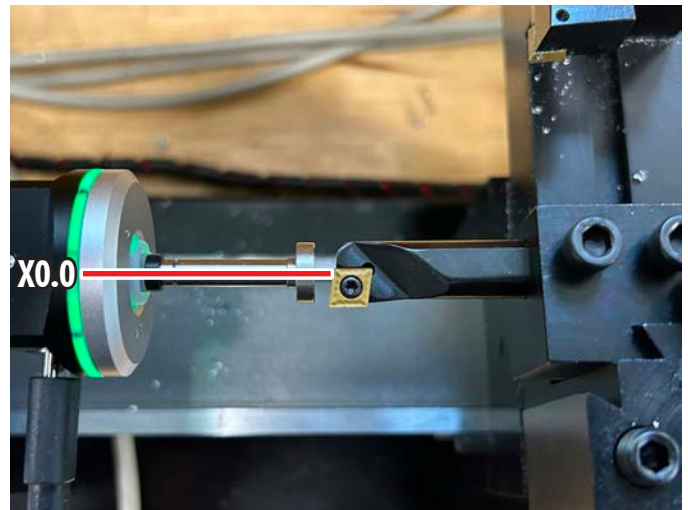

FIGURE 36
**NOTE:** Our actual X Stylus Size was .392. When we entered the stylus diameter of .392, the tools went past the part centerline (X0.0) when commanded in MDI (see Figure 36)